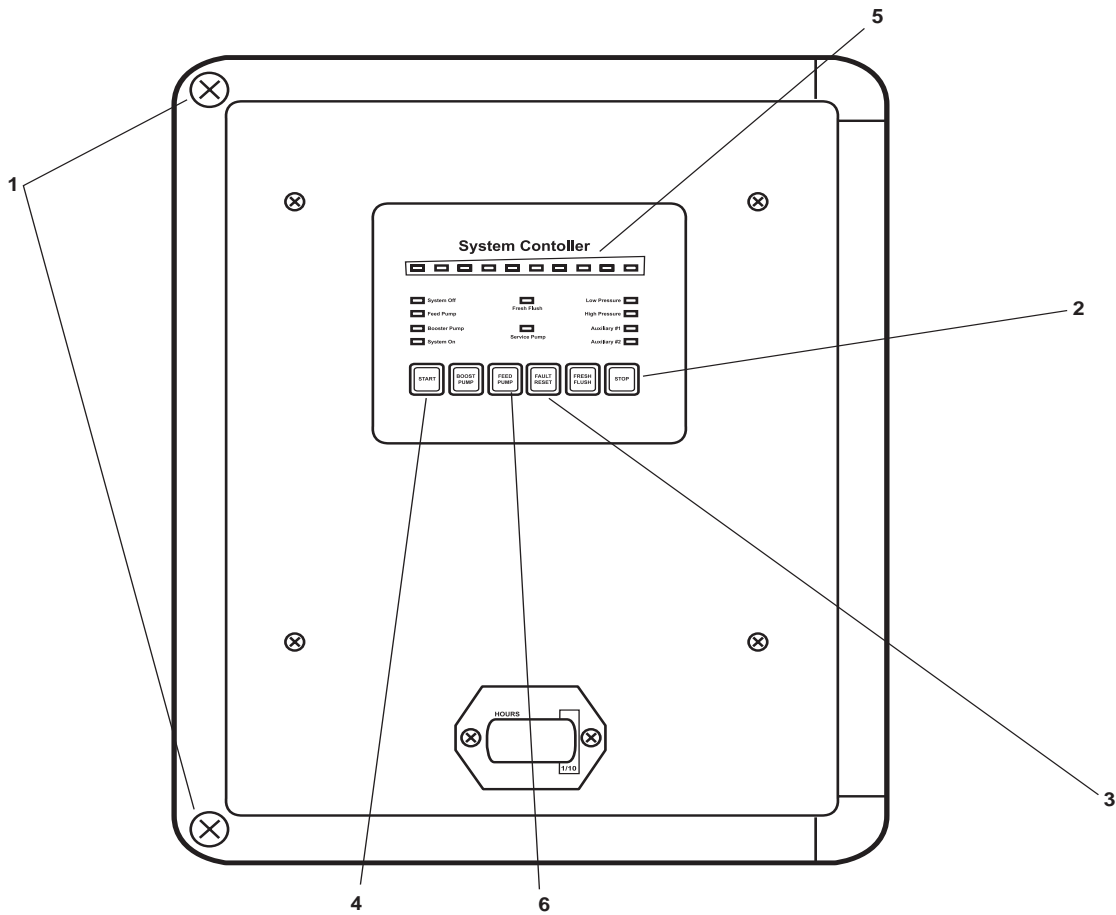

Figure 1. ROWPU System Controller Exterior
- On the applicable system controller, loosen the two captive screws (figure 1, item 1), and open the front panel.
4. Close the system controller, and tighten the two captive screws (figure 1, item 1).